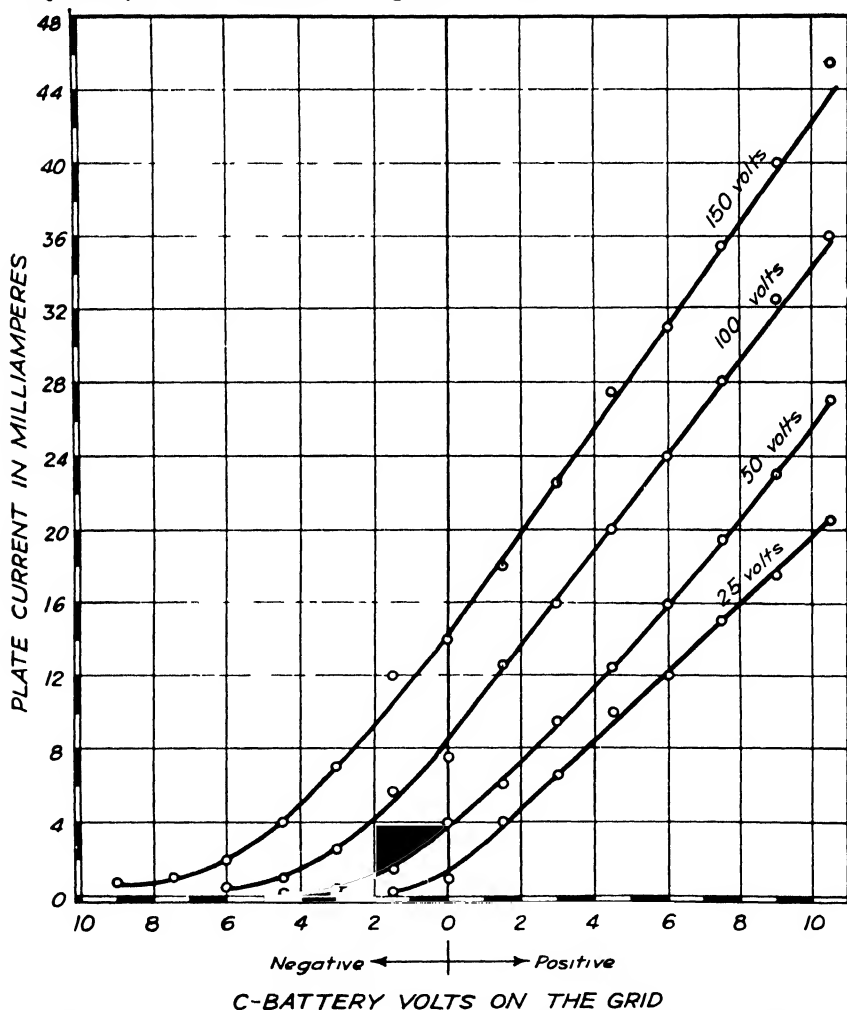

FIG. 293. Sample curves showing grid control of plate current for the 6C5 tube.
Read on the milliammeter the value of the current flowing in the plate circuit. Make a record sheet similar to the one shown in Fig. 292. Write this reading on the record sheet opposite 1.5 grid voltage. See Fig. 293 for sample curves of a test in which the grid bias was increased in steps of 1.5 volts.
Step 4. Draw the curve. Draw the base line for the grid voltages at the bottom of the graph paper (see Fig. 293). Draw the zero grid-voltage line as shown. Draw the plate current base line at the left of the graph paper. Locate the points and complete the curve. Repeat for several different plate voltages, such as 22.5 volts, 45 volts, 90 volts, 180 volts, and 250 volts.
The curve in Fig. 293 shows that 8 milliamperes of current flowed through the tube with zero voltage on the grid (see the curve with 100 volts on the plate). But when you make the grid 5 volts positive, the plate current increases to 21 milliamperes. As you make the grid more positive, the plate current becomes stronger.